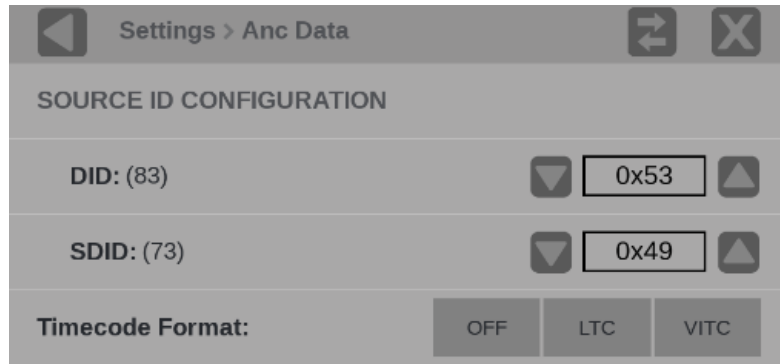

Figure 63: Reference configuration Anc Data
2. Select **Anc Data** to open the Anc Data submenu. (See Figure 63.)